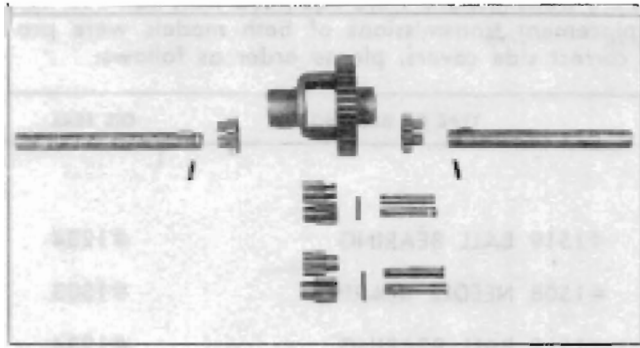
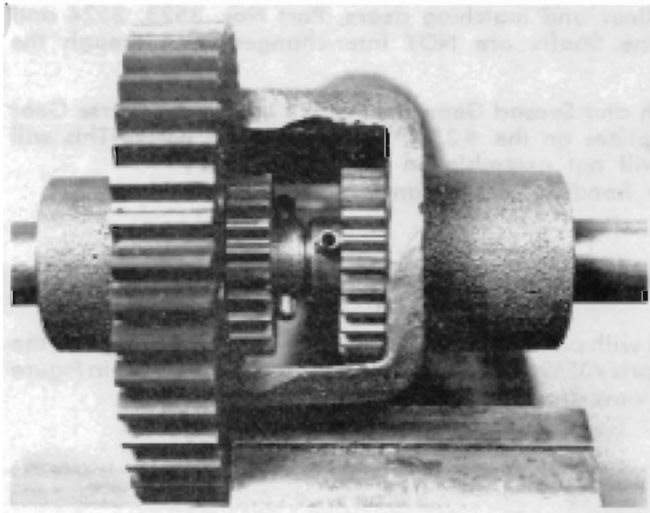

FIGURE 4
FIGURE 5
1. To assemble the differential (see breakdown Figure 4) place the axle gears in the differential case, insert the Woodruff keys in the axles, slide the axles into the axle gears and drive in the retaining roll pins. (Figure 5 shows the axles, gears and roll pins assembled.) If the axles will not slide freely into the axle gears, place a spacer between the two axle gears, which will hold them apart enabling the axles to be driven into position.